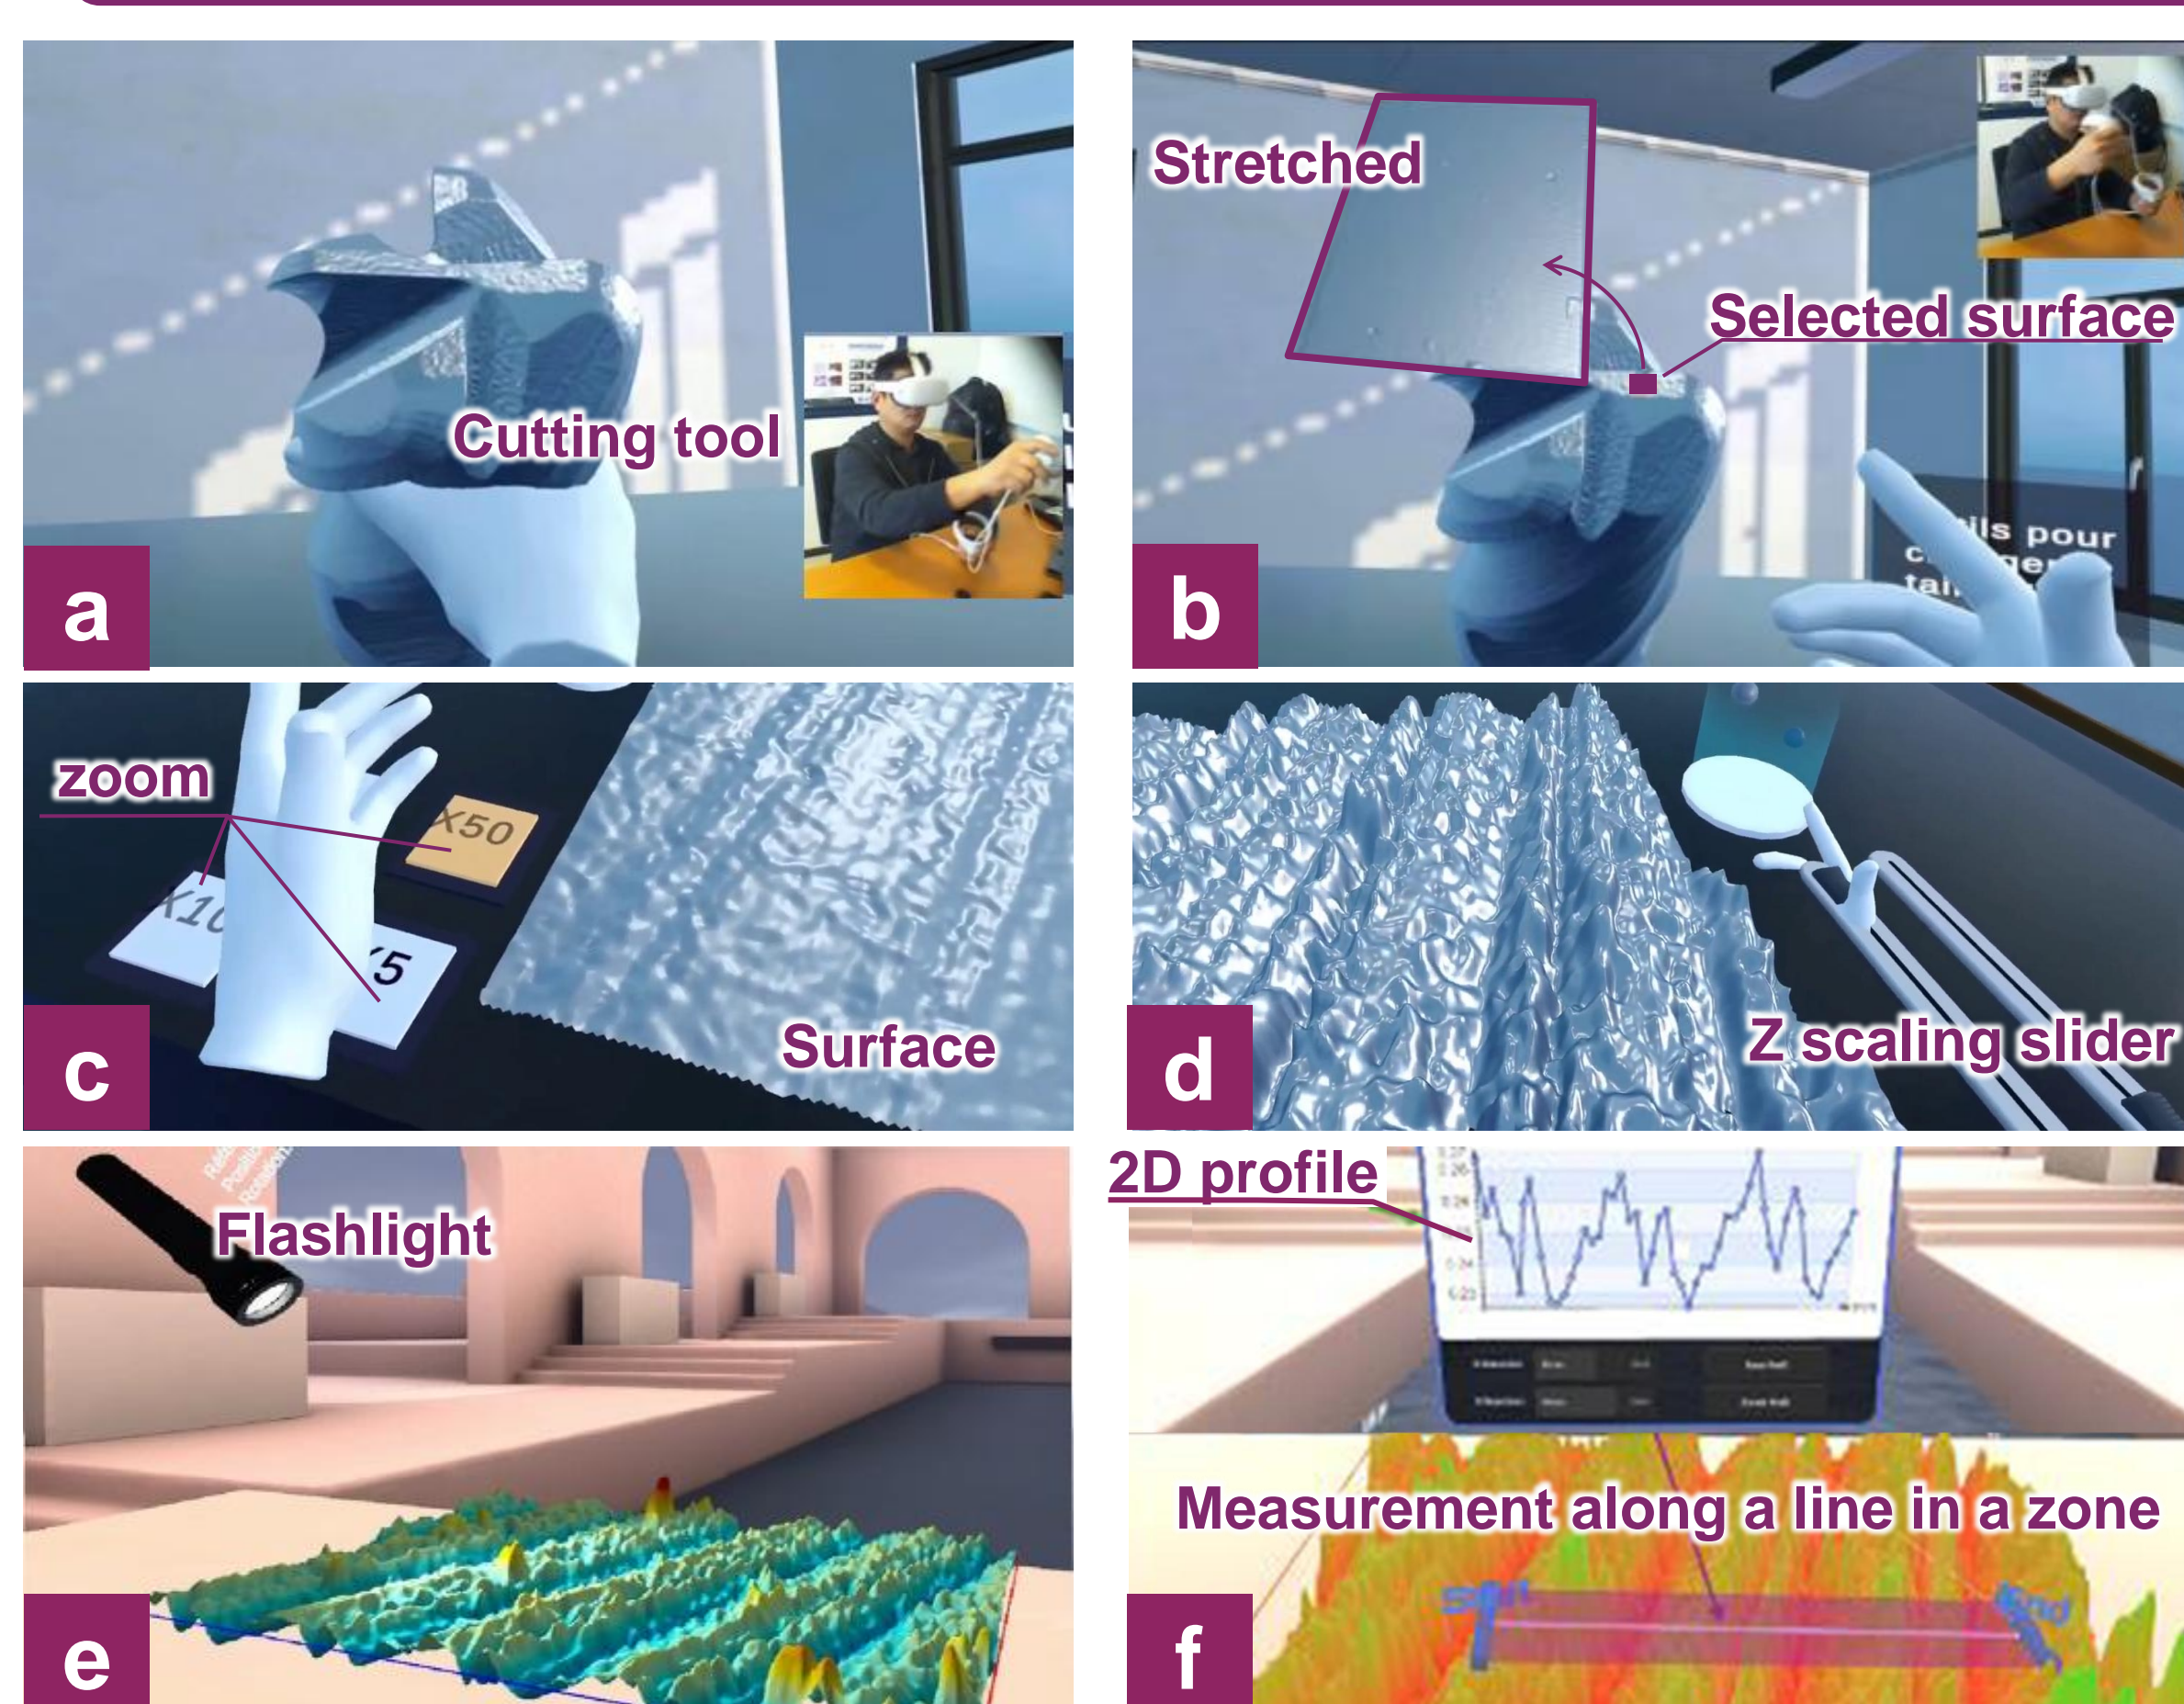

Figure 2: Interactions and functions implemented in the VR prototype.
- The user can take off the cutting tool from the machine (Fig.2.a), select and stretch a surface for detailed examination (Fig.2.b).
- Once the surface is spread on the desk the user can switch between different zoom levels of the measurements (Fig.2.c). "Z scaling" slider on the right hand allows user to amplify the height of the surface for observing all features (Fig.2.d).
- A flashlight can be manipulated by user in order to illuminate the surface from different points of view and highlight different surface roughness features (Fig.2.e).
- The user can draw a line with a certain width (zone) for observing 2D cross-section profile (Fig.2.f)